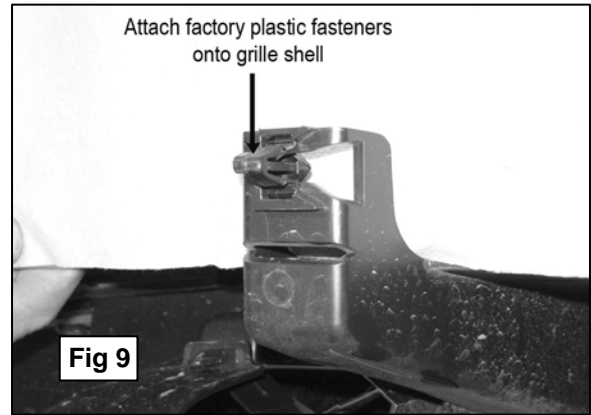

Fig 9
- Re-install the factory grille shell back onto the vehicle. **NOTE:** To ease the re-installation of the grille shell, mount the fasteners on the grille shell. Once all the fasteners are installed on the grille shell, align fasteners to the original mounting location and push them back into place, **(Figure 9)**.